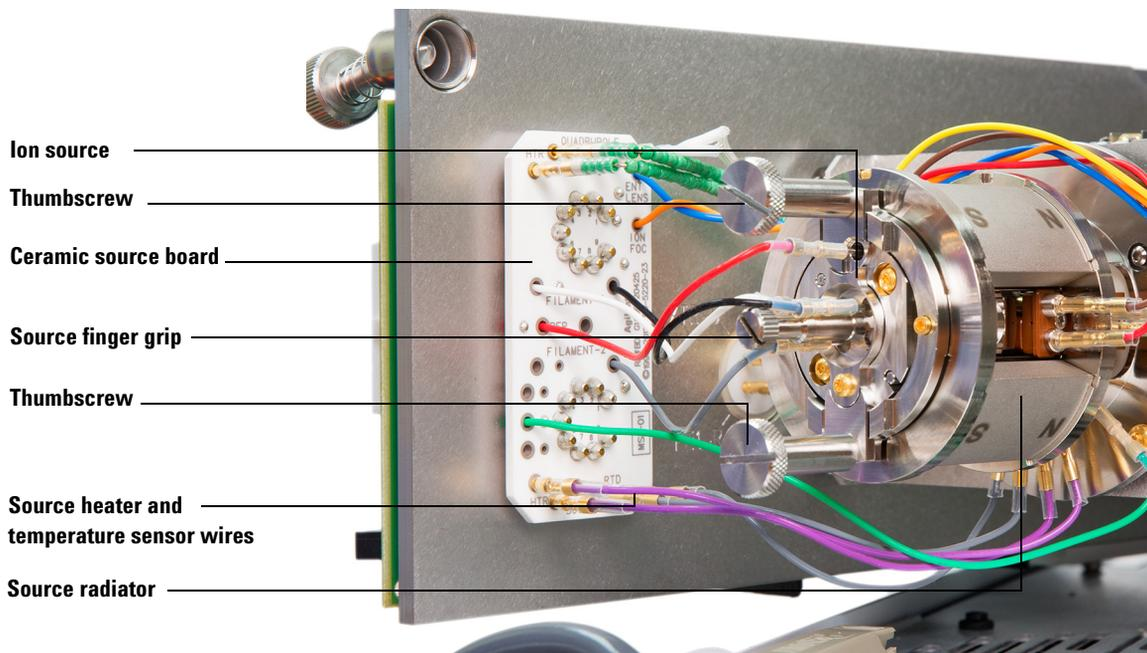

Figure 47 The analyzer chamber for the HES MSD
- 3 Remove the two large thumbscrews that hold the ion source in place. (See Figure 47 on page 155.)
- 4 Disconnect the wires from the EI HES. (See Figure 47 on page 155.) Do not bend the wires any more than necessary. (See “To Connect/Disconnect Wiring to the EI HES” on page 156.)